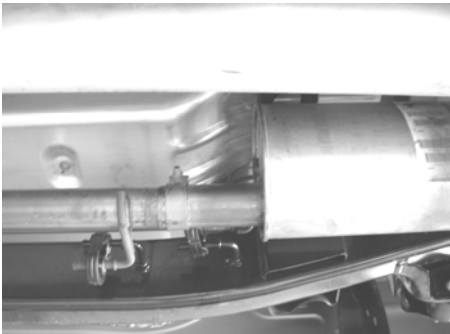

Figure 1
1. Loosen the clamp shown in figure 1 located in front of the muffler assembly.